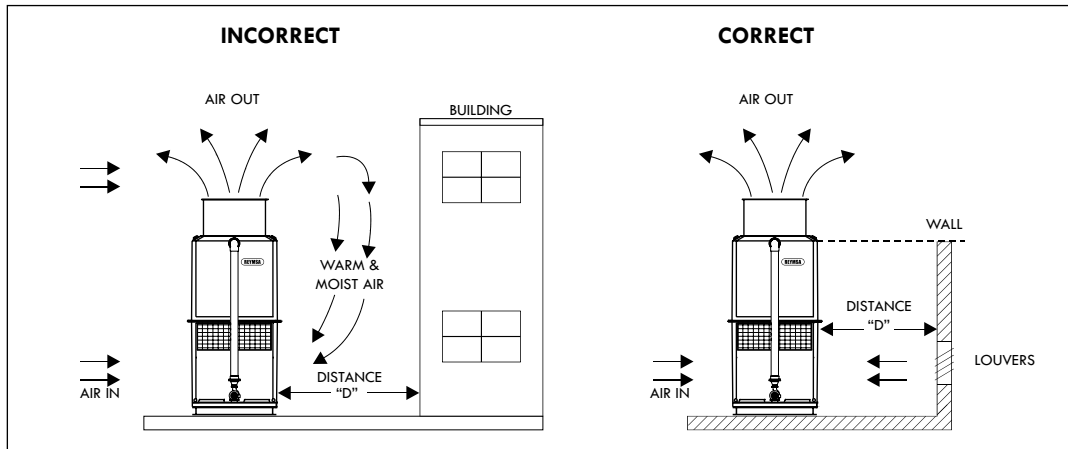

Figure A-2: Recirculation
- Place the Closed Circuit Fluid Cooler where it will have at least the recommended clearance on all sides for servicing and for adequate air intake. It is important to consider that the top of the tower should be above the roofline of any adjacent building or other nearby obstructions. This will limit the possibilities of the air recirculation back into the towers air intake (See Figure A-2).